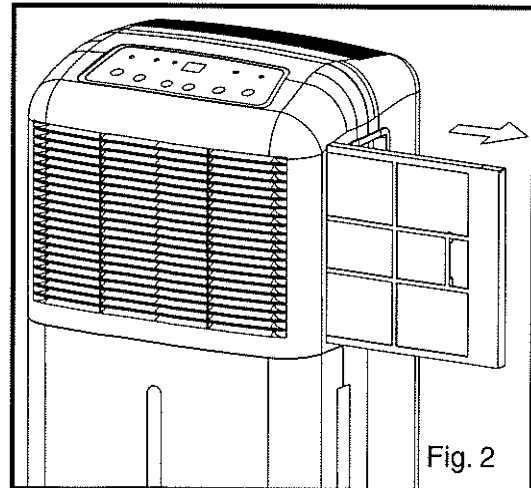

Fig. 2
1. Grasp the filter handle, and pull the filter out. The filter will slide out easily. See Fig.2